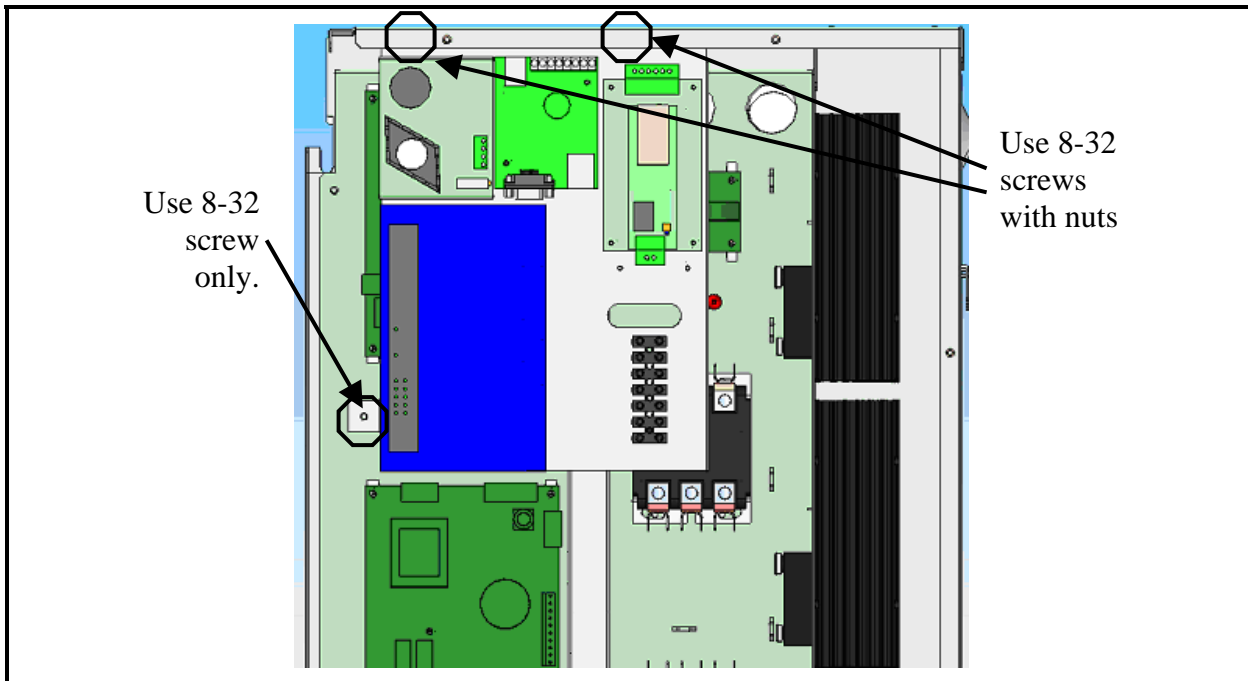

Figure 2. LINKS 2 Bracket Placement
- (1) Refer to Figure 2 for the mounting location of the Nortec LINKS 2 Bracket on the NNDI or NHSC unit. If pilot holes for the mounting screws are not already present on the humidifier frame follow steps 2 and 3. If pilot holes are present then disregard steps 2 and 3.
- (2) Using the bracket assembly as a template, mark locations of pilot holes on the NNDI/SC humidifier cabinetry.
- (3) Using 1/8" drill bit, drill pilot holes for the bracket mounting screws.
- (4) Install the bracket assembly using the provided #8-32 screws. Note that 2 #8-32 nuts have been supplied to secure the 2 top mounts. The third screw will thread into the humidifier cabinet itself.